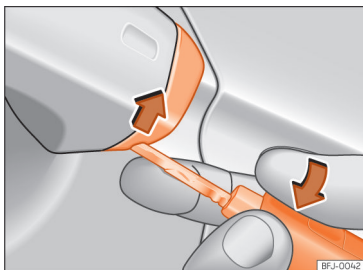

Fig. 54 Driver's door handle: pry the cover open.
- Insert the key shaft into the lower opening in the cover on the driver door handle then remove the cover upwards >>> **Fig. 54**.